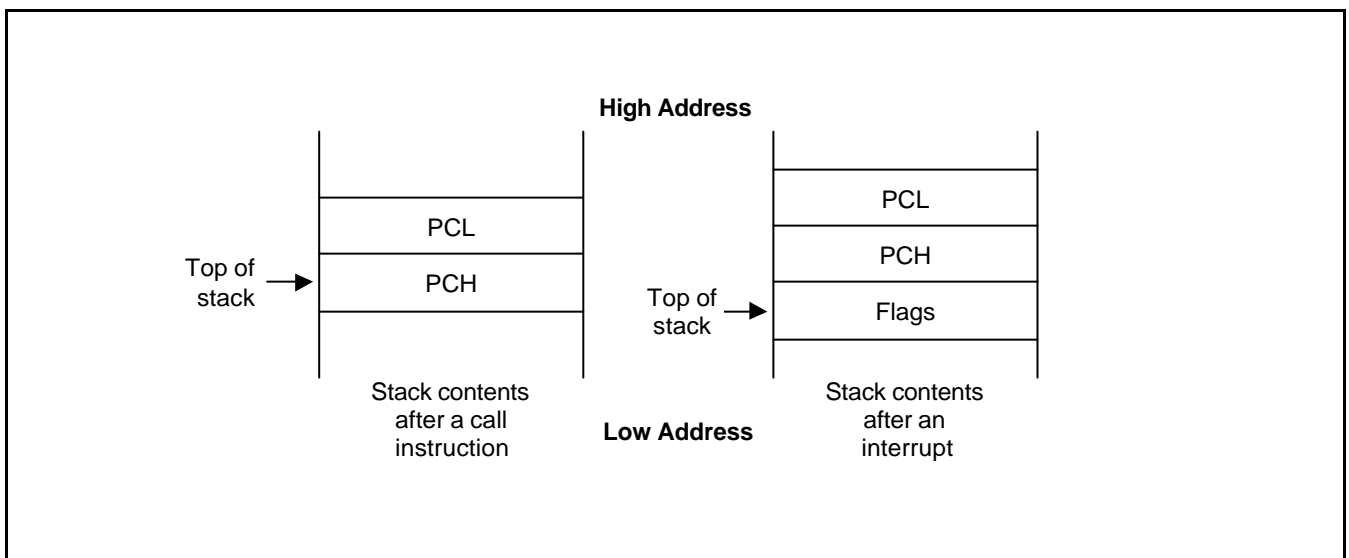

Figure 2-5. Stack Operations
Return addresses for procedure calls and interrupts and data are stored on the stack. The contents of the PC are saved to stack by a CALL instruction and restored by the RET instruction. When an interrupt occurs, the contents of the PC and the FLAGS registers are pushed to the stack. The IRET instruction then pops these values back to their original locations. The stack address always decrements *before* a push operation and increments *after* a pop operation. The stack pointer (SP) always points to the stack frame stored on the top of the stack, as shown in Figure 2-5.